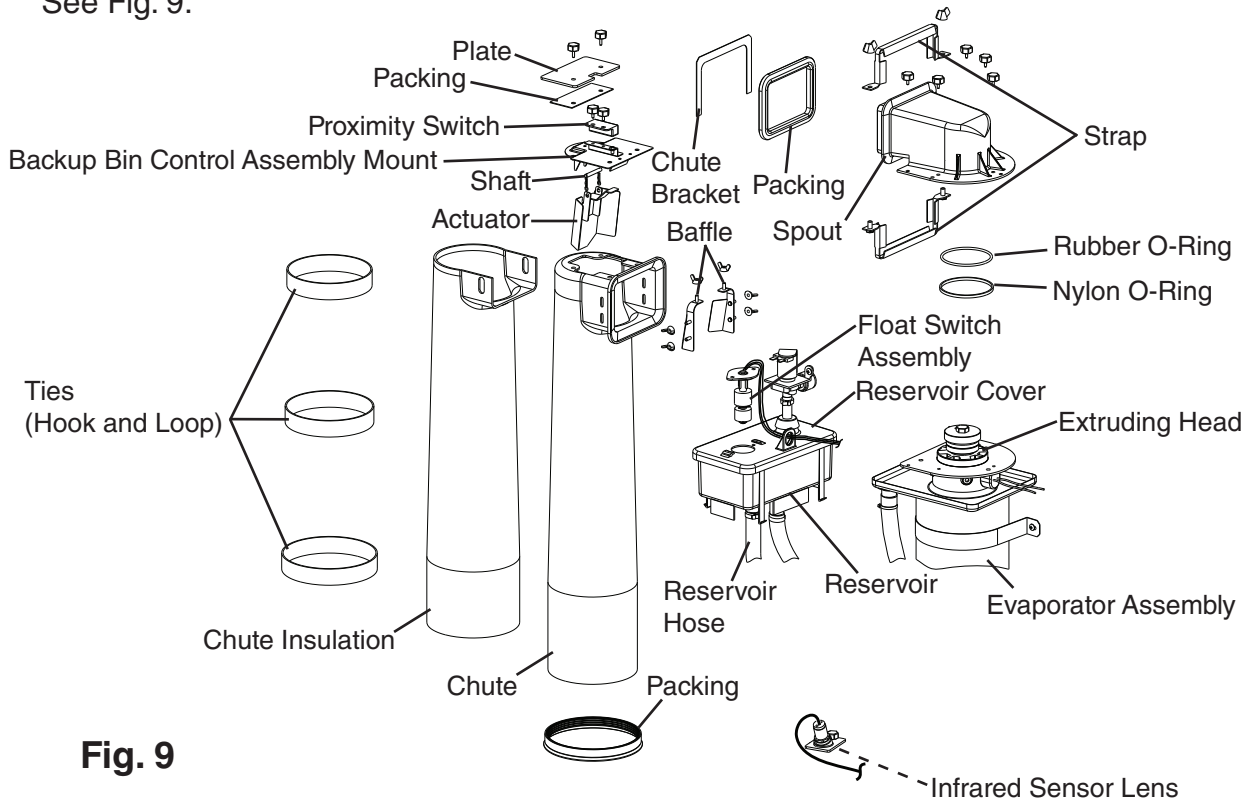

Fig. 9
- 6) Remove the strap connecting the spout to the chute assembly, then remove the spout. See Fig. 9.